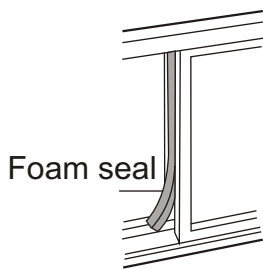

Fig.15
5. Cut the foam seal to an appropriate length and sea the open gap between the top window sash and outer window sash. Shown as in Fig.15.